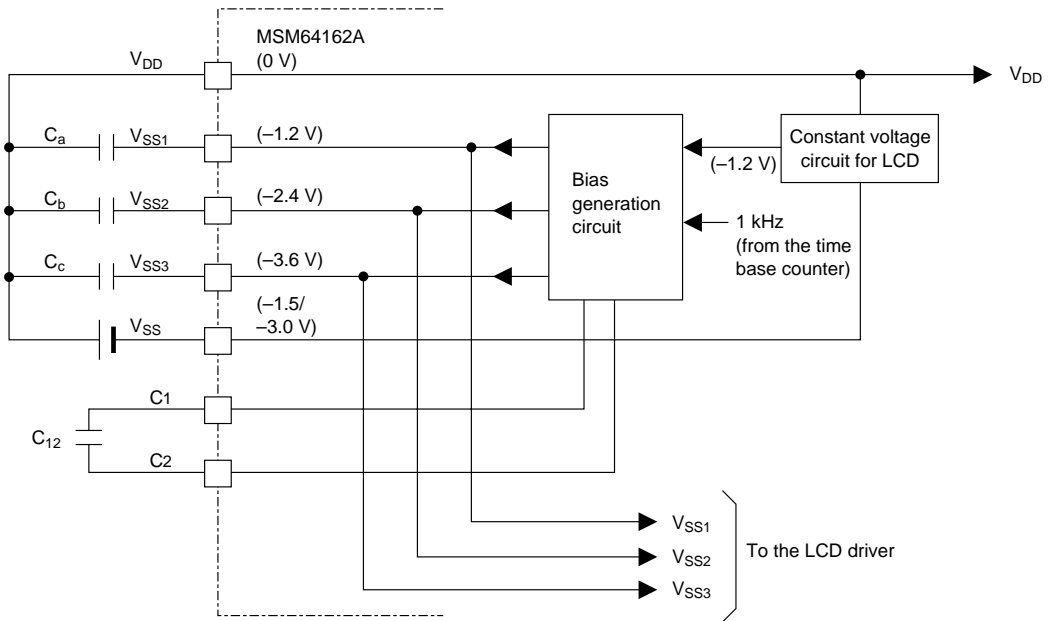

Figure 13-6 Layout of the Bias Generation Circuit
(2) Figure 13-6 shows the layout of the bias generation circuit when a constant voltage circuit for LCD is used by mask option.